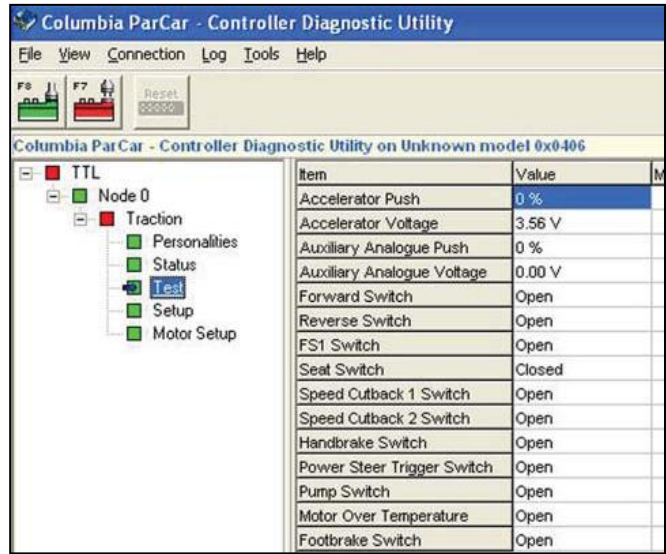

Figure 4.3
1. Open the connection between the controller and the PCPaK utility. On the left side of the screen, select the "test" section under the "traction" pull down. This screen will display the inputs the controller is observing at that time (Figure 4-3).